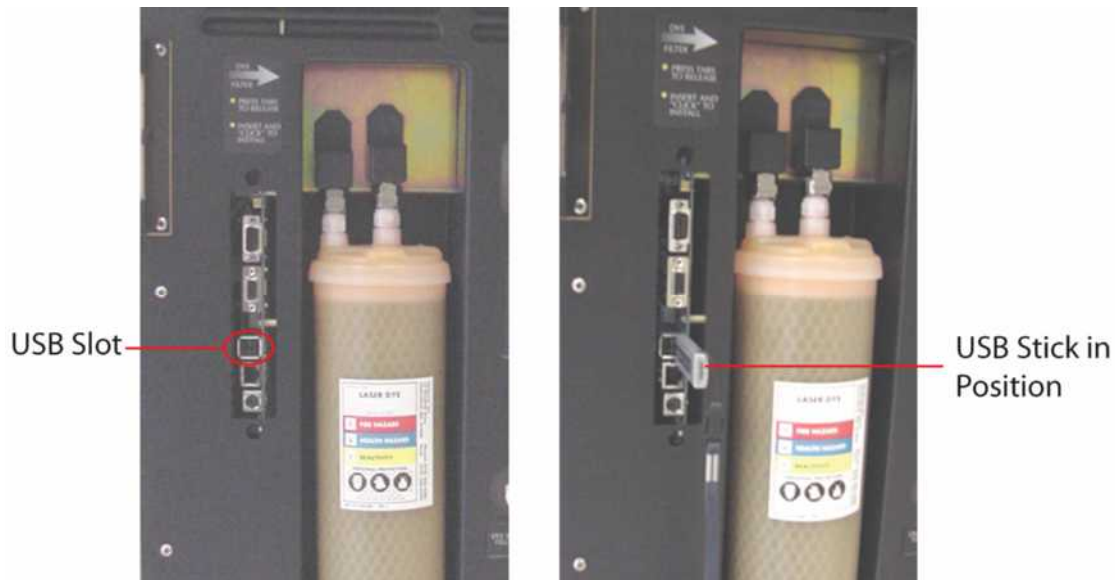

Figure 26B–USB Slot Location
3. Once the panel is off, locate the USB slot, and then insert the USB stick into the slot. See **Figure 26B**. Make sure the LED is illuminated on the USB stick.